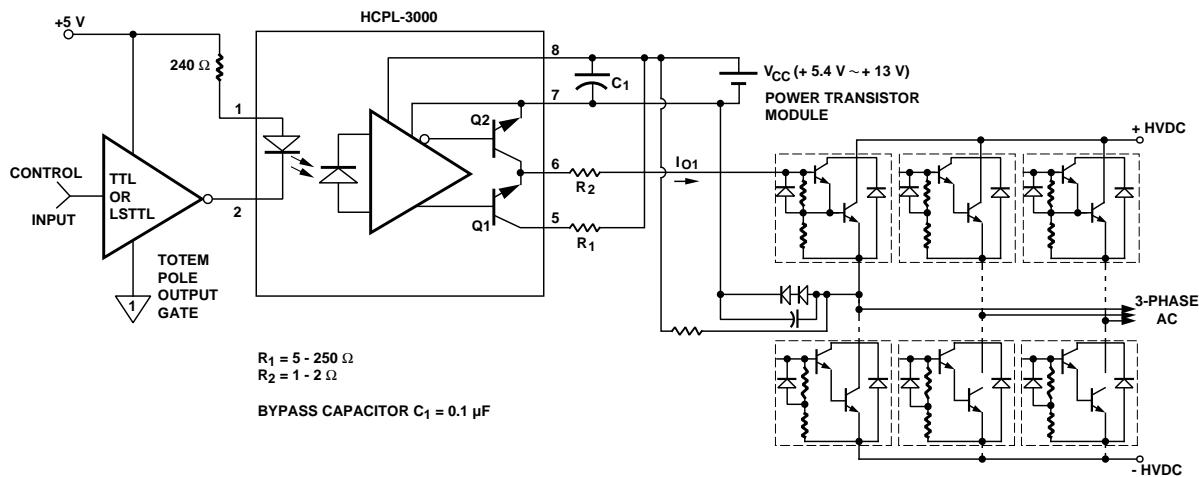

Figure 1. Recommended Output Transistor Protection and Typical Application Circuit.
THE USE OF A 0.1 μ F BYPASS CAPACITOR CONNECTED BETWEEN PINS 8 AND 7 IS RECOMMENDED. ALSO, CURRENT LIMITING RESISTORS ARE RECOMMENDED (SEE FIGURE 1, NOTE 2, AND NOTE 7).
amounts of current. Figure 1 describes a recommended circuit design showing current limiting resistors R₁ and R₂ which are necessary in order to prevent
7. R_1 sets the base current (I_{O1} in Figure 1) supplied to the power bipolar device. R_2 limits the peak current seen by Q2 when the device is turning off. For more applications and circuit design information see Application Note "Power Transistor Gate/Base Drive Optocouplers."